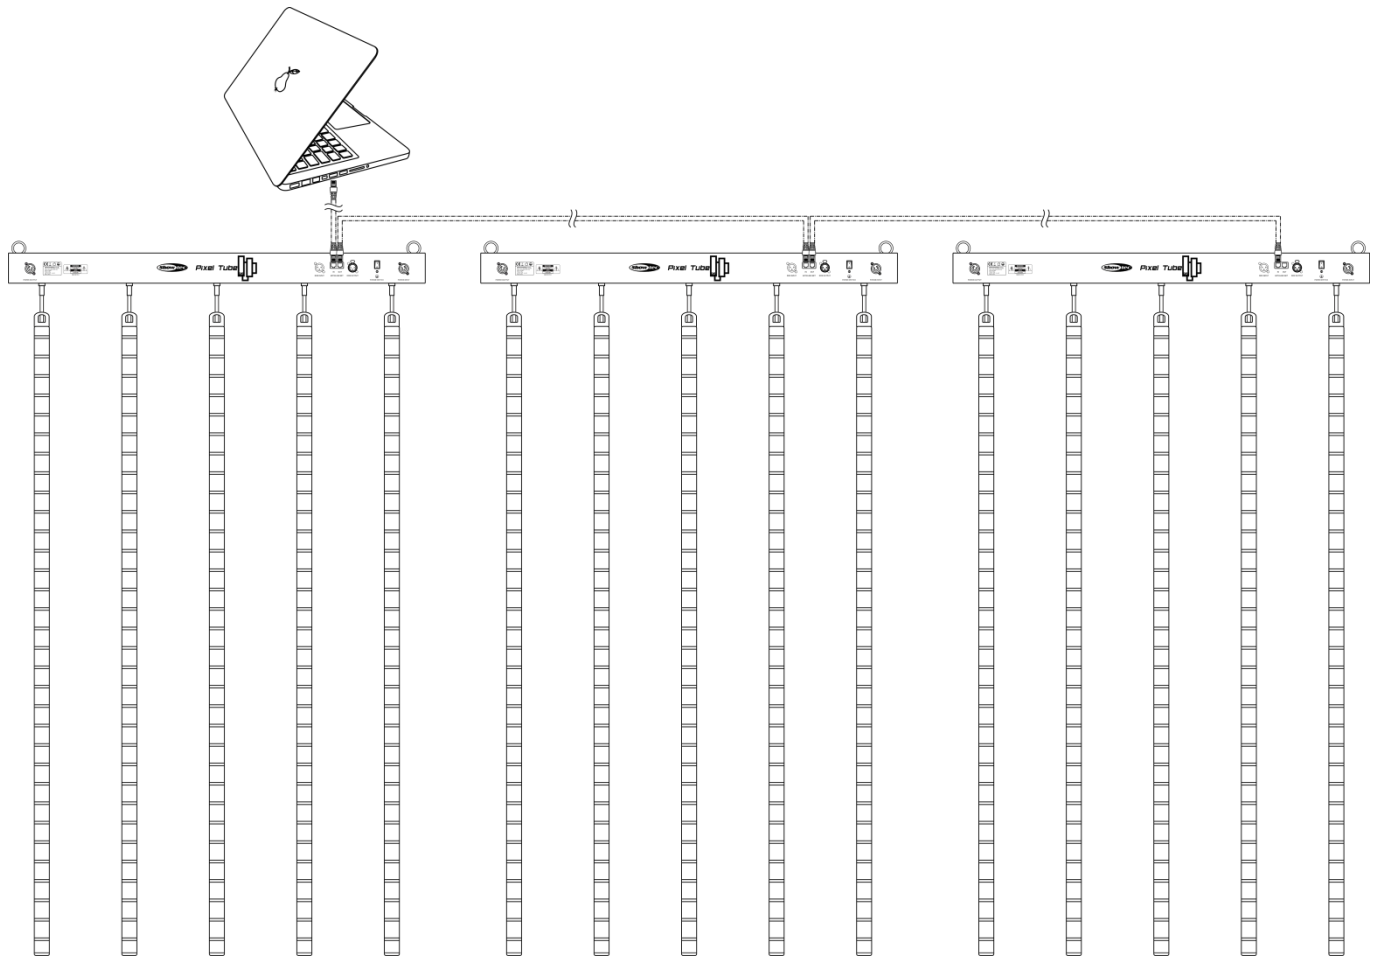

Fig. 05
- 04) Link the units as shown in fig. 05. Connect the first Pixel Tube's RJ45 "out" socket with the second unit's "in" socket, using a CAT-5/CAT-6 signal cable. Repeat this process to link the second, third, and fourth units.